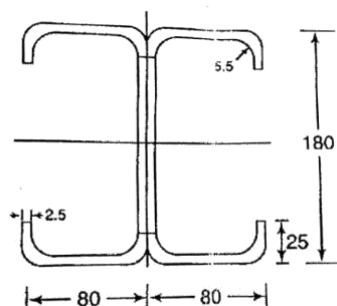

Figure 6
7. Two channels of 180mm X 80 mm sections with bent lips as shown in Figure 6 are connected with webs to act as a laterally supported beam. The thickness of plate is 2.5 mm and the depth of the lip is 25 mm. The beam has an effective span of 4.0 Determine the allowable load per metre run on the beam. Also Determine the deflection at the allowable load Take $f_y=235$ N/mm² and $E= 2 \times 10^5$ N/mm² [12M]